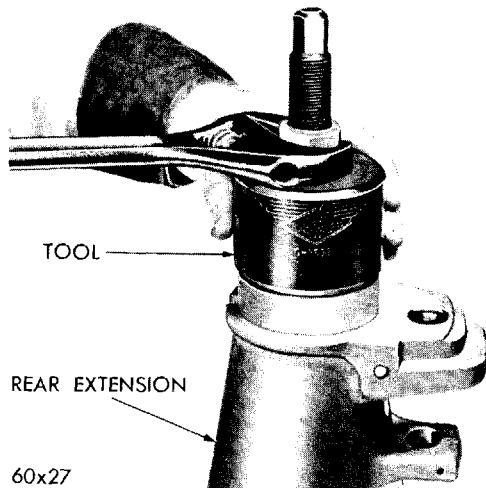

Fig. 28—Burnishing Output Shaft Bushing
(2) While holding screw of tool (Fig. 28) to prevent turning, turn nut on tool until burnisher is pulled back out of bushing to correctly size bushing. Recheck indexing of lubrication hole in bushing with housing.
(3) Use driver, Tool C-3691, and install output shaft oil seal (with metal portion of seal facing down in housing bore) until tool bottoms on extension.
(4) Using a new gasket, slide extension assembly over guide studs in transmission case up against output shaft support. **Do not use sealing material on gasket.**
(5) Start extension to case screws. **Due to interference of the insulator, it will be necessary to start the bottom extension housing to case screw as the extension is pushed into position against the support.** Remove guide studs and in-